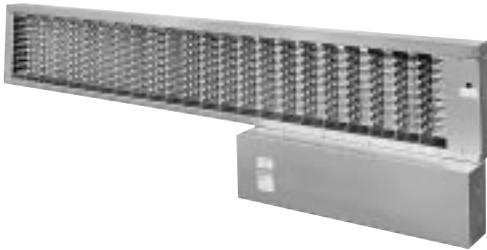

Figure 53. Heater with offset terminal box for package unit
**Package Units** – INDEECO manufactures heaters specifically designed for installation in packaged air conditioning equipment. This is a particularly tough application as package units are compactly designed. INDEECO developed heater designs to meet these conditions: narrow heating sections to fit into the thinnest of spaces; unusually configured terminal boxes and covers; special mounting flanges; prepunched mounting holes and detailed instructions to aid the field installer (see Figures 53 and 54).